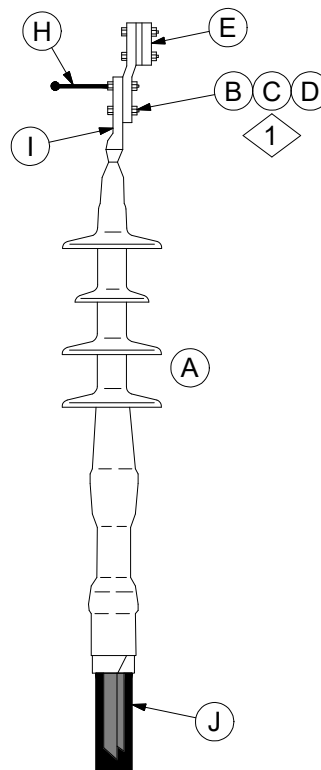

Figure 7A
10. For outdoor installations, attach a bronze four bolt lug to the compression lug or shearhead bolt lug using a ground stud in the upper hole and a 1/2" x 2" bolt in the lower hole. See Figure 7A.